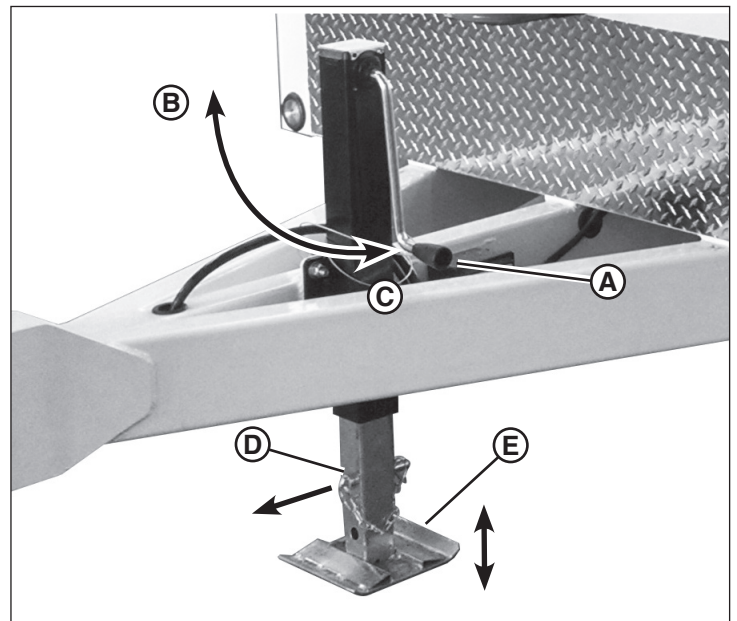

Figure 9
- Turn the jack handle (A, Figure 9) clockwise (B).
- Turn the jack handle (A, Figure 9) counter-clockwise (C).
2. Remove the pin (D, Figure 9) securing the jack foot (E) to the tongue jack.